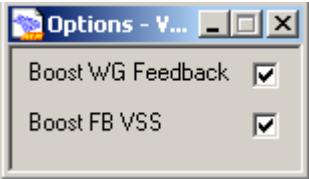

Fig. 3 - VSS Boost Control Options
11. Locate the **Options** window and check both boxes to enable feedback and the VSS function (Fig. 3)